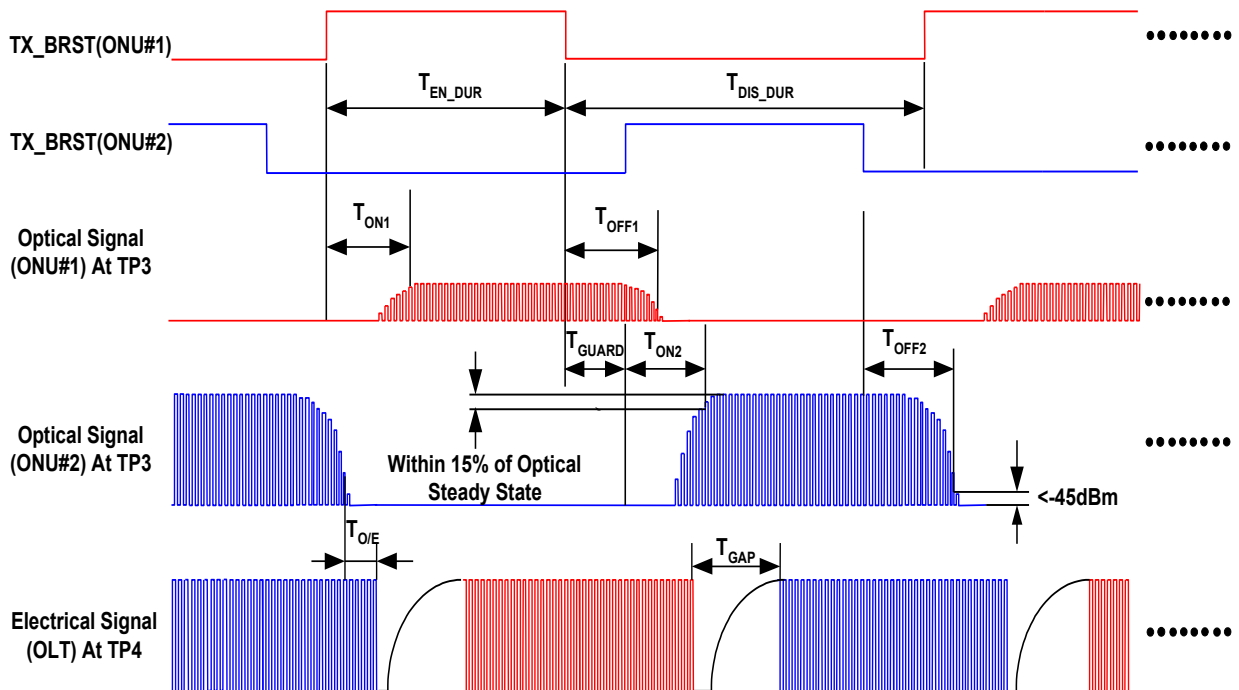

Figure 2, Timing Parameter Definition in Burst Mode Sequence (Dual ONUs Application)
- See Figure 2. TGAP be less than 250ns is guaranteed.